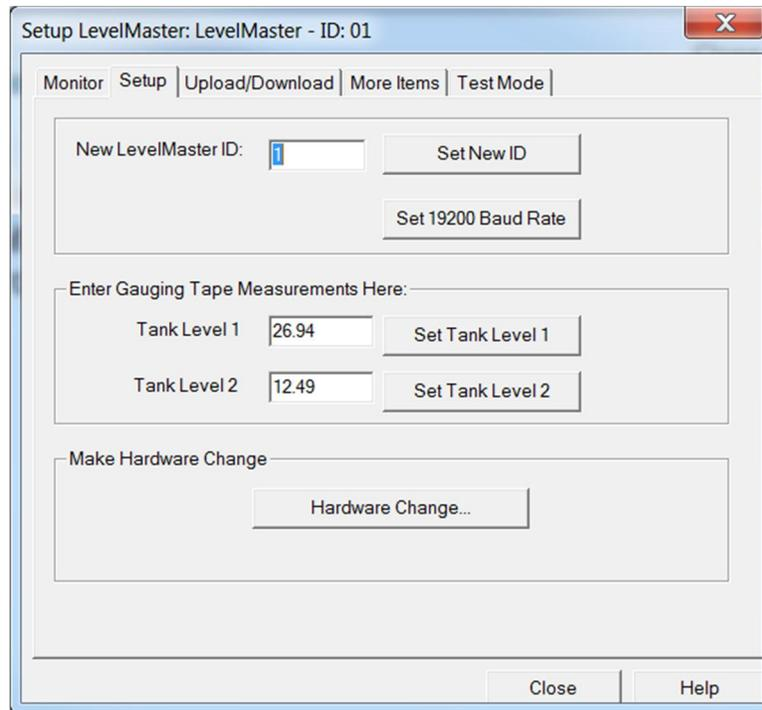

Figure 64: LevelMaster Setup tab for ID and Baud rate configuration
- Click the **Setup** tab (Figure 64).